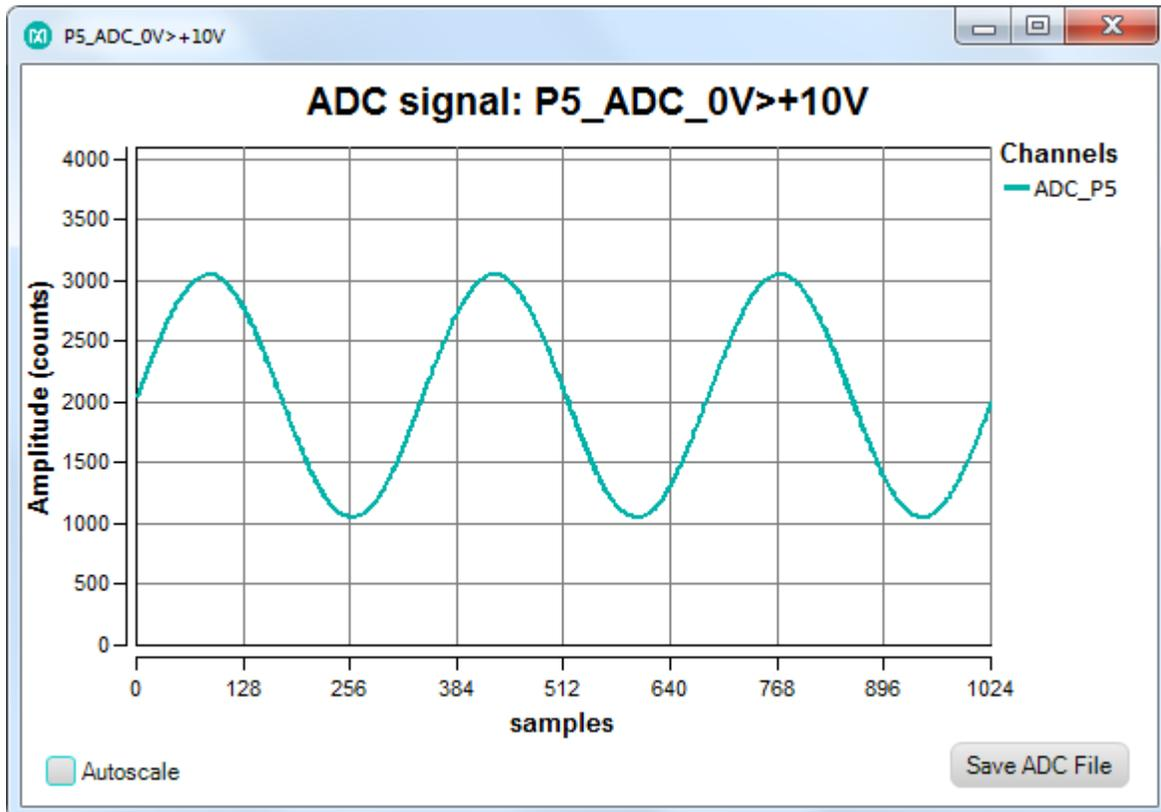

Figure 26. Sine wave with 170 $\mu$ s sample delay.
- After connecting the DAC to the ADC, observe a sine wave in the ADC plot window as shown in **Figure 26**. Since the DAC can sample 20ksps only, but the ADC can sample 400ksps, the multiple data points are written to the DAC before the DAC can accept a new data point. To allow ample time for the DAC to settle before writing a new value, insert a sample delay between each sample by selecting 10 $\mu$ s or more in the **Sample delay** drop-down menu. We add 170 $\mu$ s sample delay here.